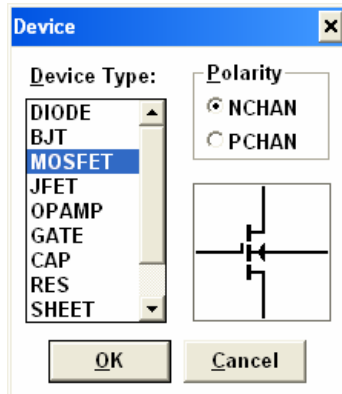

Fig. 3: Selecting a device to test
- By default, the software is setup to test a MOSFET. Let's change this, and test a resistor. Click on the **Device** button to bring up the **Device** dialog box (Fig. 3). Click on **RES** to select a resistor as the device. Similarly, we can select diodes, BJTs, capacitors, etc. Click on **OK** when you're done.